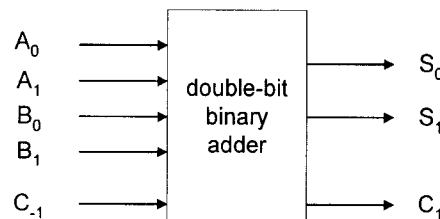

Figure 3.1
3. a) Figure 3.1 shows a double-bit binary adder circuit, which takes two 2-bit numbers $A1:A0$ and $B1:B0$ and a carry input C_{-1} , and produces a 2-bit sum $S1:S0$ and a carry output C_1 . Derive a Boolean expression for the carry output C_1 of the double-bit binary adder shown in Figure 3.1 in terms of its inputs A_0 , A_1 , B_0 , B_1 and the input carry C_{-1} .